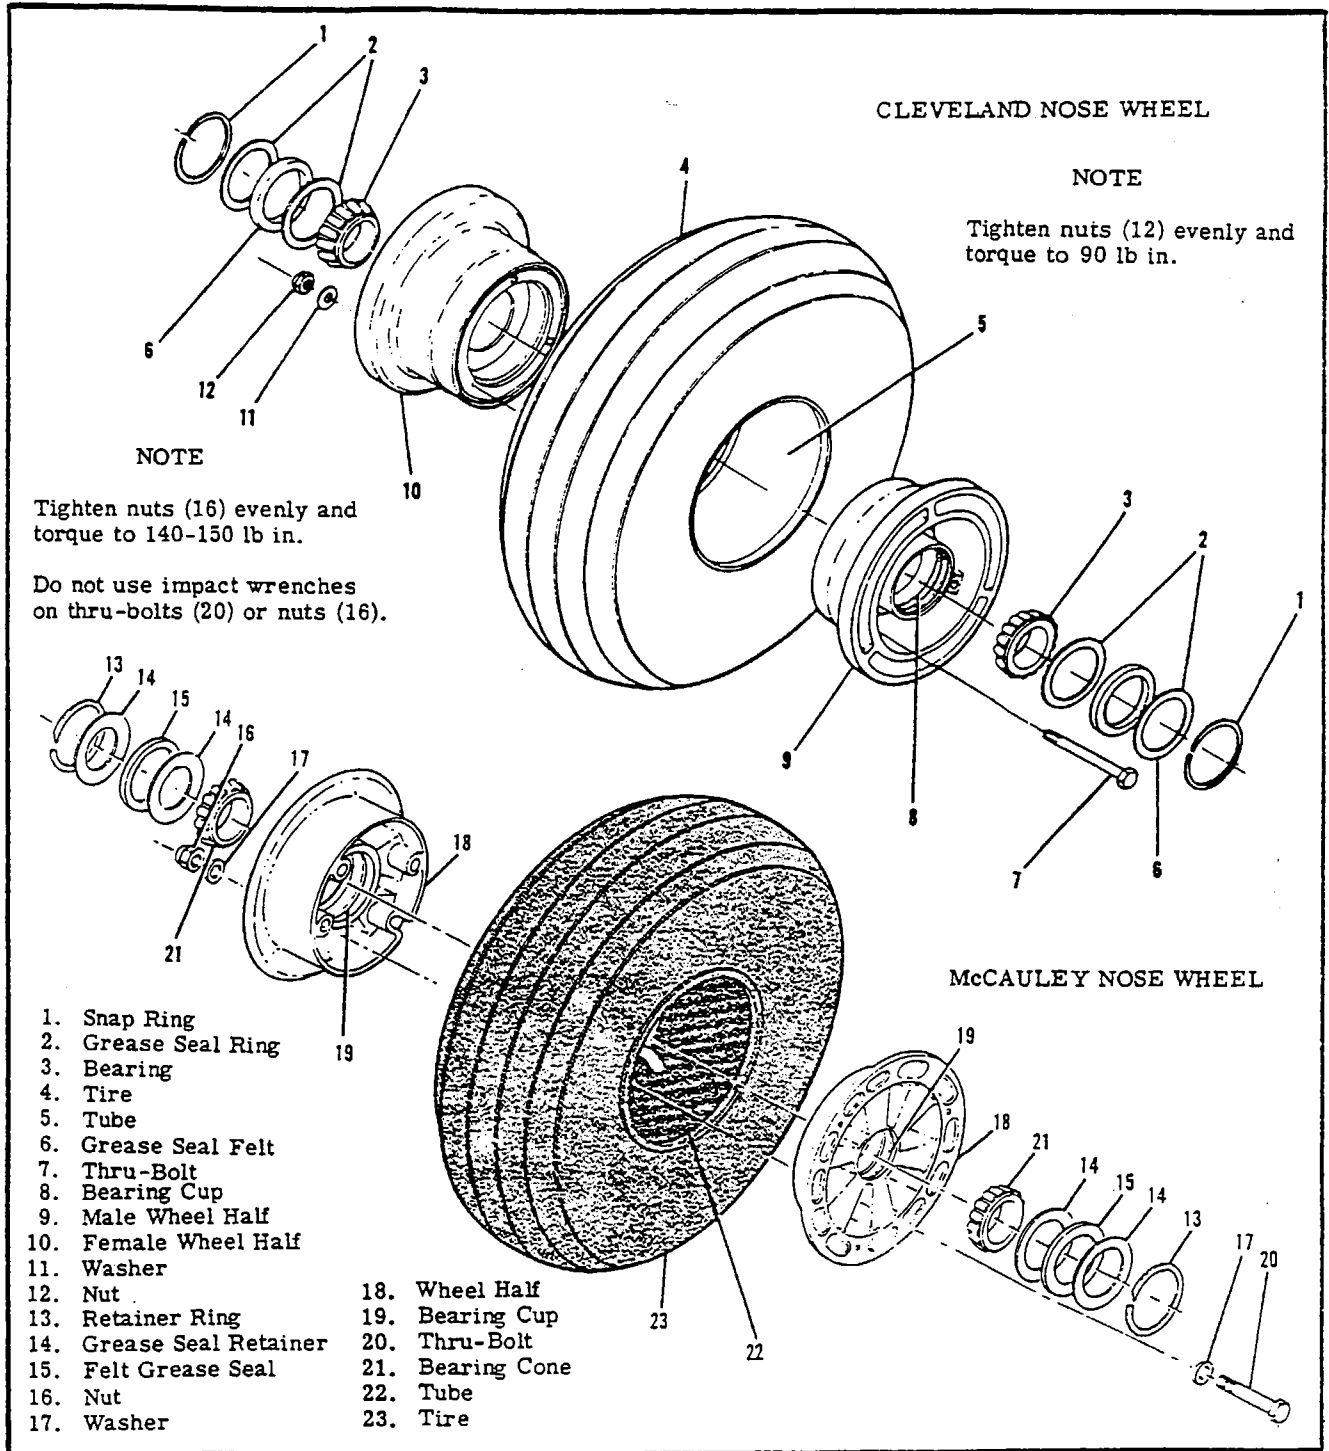

Figure 5-23. Nose gear Wheel and Tire Assembly
5-129. NOSE WHEEL AND TIRE ASSEMBLY. (Refer to figure 5-23.)
5-133. DISASSEMBLY OF CLEVELAND NOSE WHEEL AND TIRE ASSEMBLY. (Refer to figure 5-23.)
5-135. REASSEMBLY OF CLEVELAND NOSE WHEEL AND TIRE ASSEMBLY. (Refer to figure 5-23.)
- c. Insert thru-bolts, position other wheel half and secure with nuts and washers. Torque bolts to value stipulated in figure 5-23.
- e. Assemble bearings (3), grease seal rings (2), and grease seal felts (6) into wheel halves and install snap rings (1).
5-136. DISASSEMBLY OF McCAULEY NOSE WHEEL AND TIRE ASSEMBLY. (Refer to figure 5-23.)
5-138. REASSEMBLY OF McCAULEY NOSE WHEEL AND TIRE ASSEMBLY. (Refer to figure 5-23.)